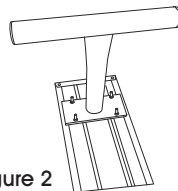

Figure 2
2. Place one leg frame at a time 6" from the end of the seat plank. Loosely attach using four hold down clips, four 5/16" flange nuts and four 5/16" carriage bolts per leg frame. (See Figure 2)